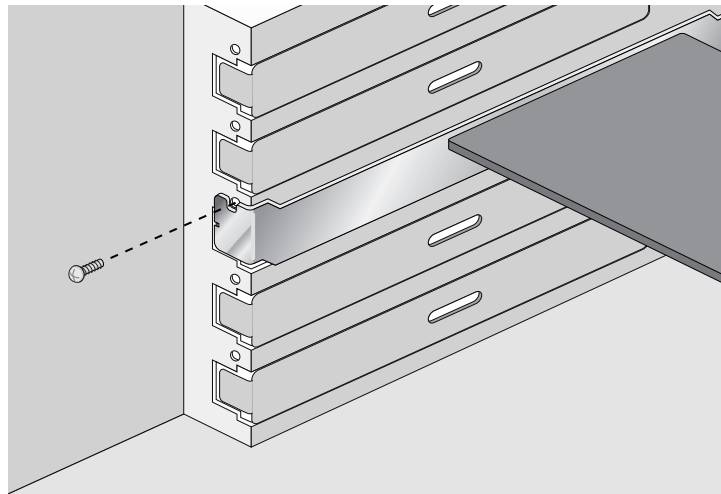

Figure 9. Securing the Adapter Card
6. Secure the network adapter card to the chassis with a Phillips-head screw (not provided) as shown in Figure 9.